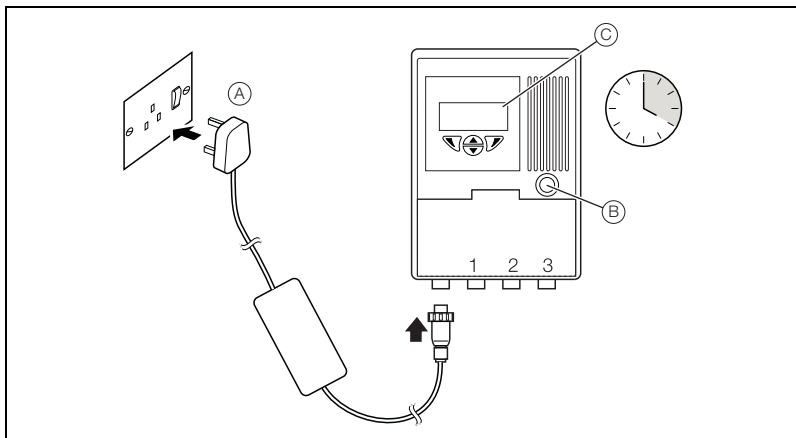

Fig. 7.1 Recharging the CalMaster2
1. Plug in the universal mains adaptor (A) – see Fig. 7.1.
2. Press the 'On' button (B). Failure to do this results in slow and partial charging of the battery.
3. Correct connection is confirmed by the mains icon in the top right corner of the display (C).
5. If fast-charging mode was engaged, once the required battery voltage is reached the unit switches fast-charge off automatically and the display switches off. Pressing the 'On' button (B) starts the CalMaster 2.
7. CalMaster 2 can be used during charging by pressing the button labelled 'Stop' on the display, followed by the 'On' button (B). Leave the charger connected. In this mode, charge times are extended.